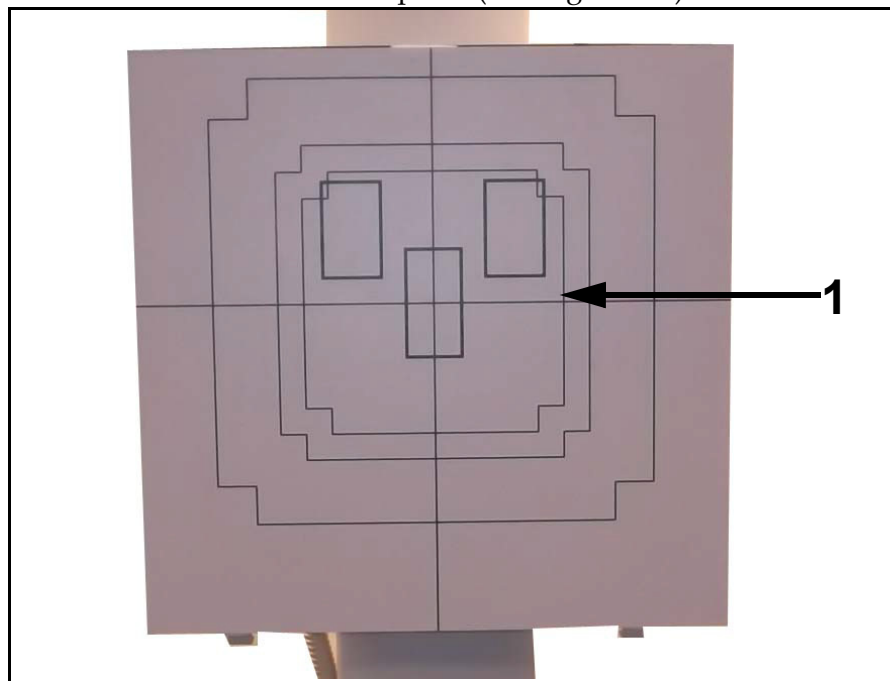

Figure E-5. Panel Removal
- 5 Pull velcro-backed panel (1 in Figure E-5) off the wallstand.